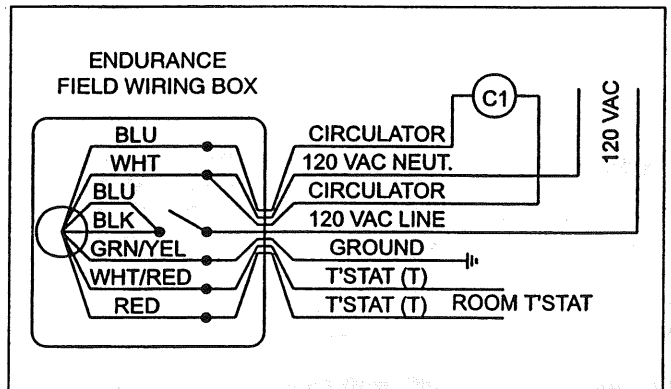

Figure 16. Single Zone with Added Circulator(s) and Room Thermostat(s).
2. For single zone installations: (If external pump is required, e.g., because of large system pressure drop) connect room thermostat wires to the red and white/red wires. Connect circulator (120 volt, 5 amps maximum) between the blue wire and the white wire (neutral) (see Figure 16).